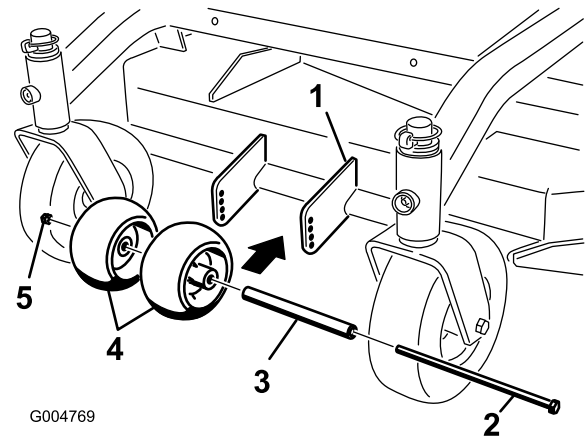

Figure 14
1. After adjusting height-of-cut, check the anti-scalp rollers so that there is a minimum of 10 mm (3/8 inch) clearance above the ground (Figure 14).
2. If adjustment is needed, remove the bolt, washers, and nut (Figure 14).
3. Select a hole position so the anti-scalp rollers are a minimum of 10 mm (3/8 inch) off the ground (Figure 14).
4. Install the bolt and nut (Figure 14).